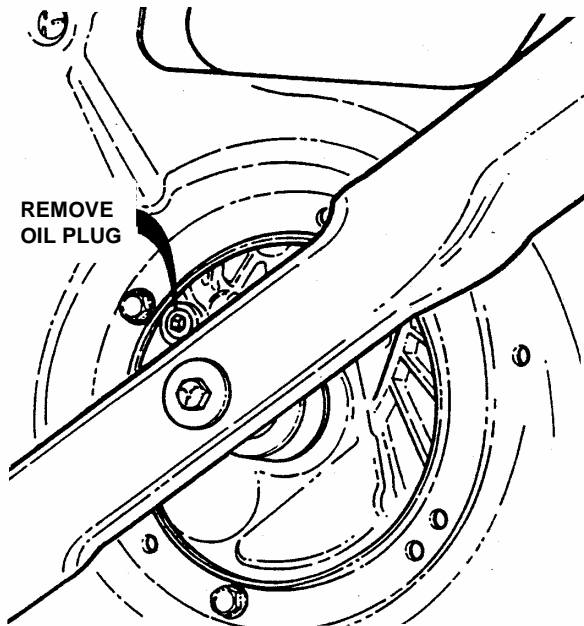

FIGURE 3.1
1. Disconnect spark plug wire and secure end away from plug. The items needed to perform oil change are: (2) cloth rags, (1) 3/8" drive ratchet with a short extension and (1) shallow pan.
2. Tilt mower up on its rear wheels for access to the oil drain plug located underneath the mower deck. Do not tilt mower with spark plug or carburetor down. See Figure 3.1.